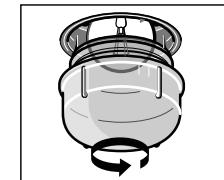

Fig. 3
2. Unscrew the glass cover in the anti-clockwise direction according to Fig. 3 and replace the bulb with a bulb of the same type and parameters.